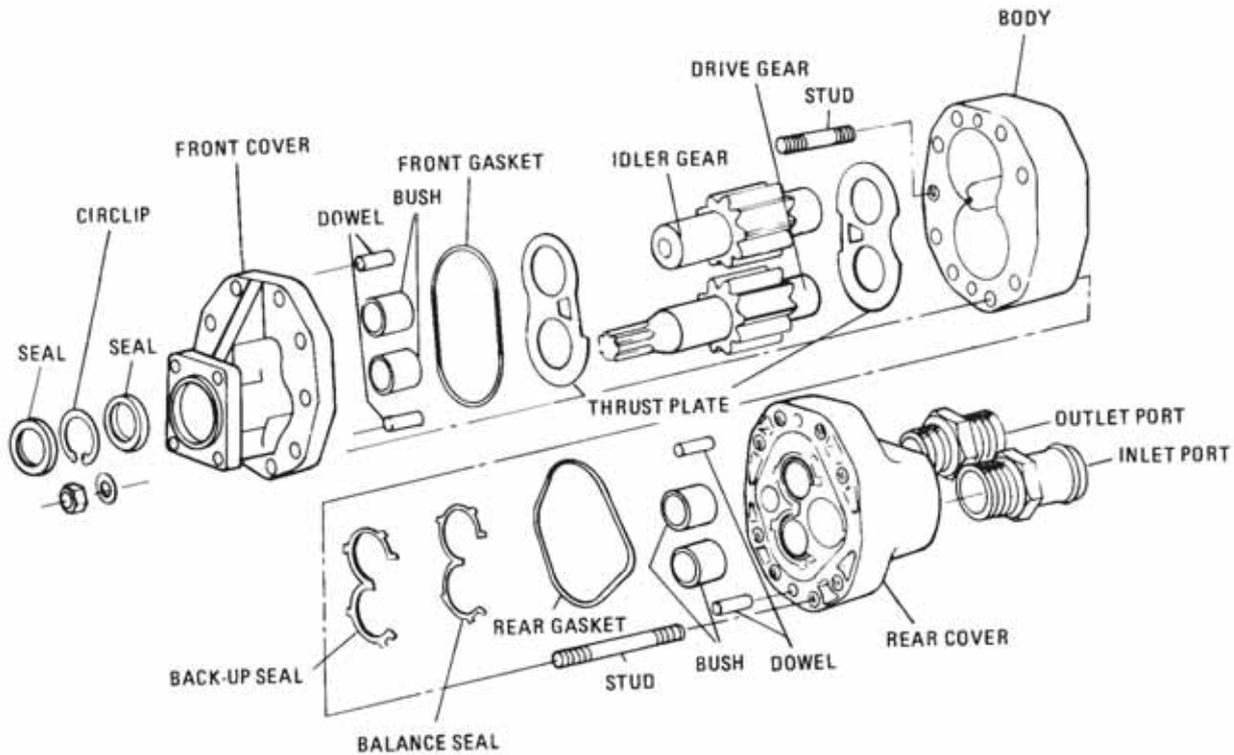

Figure 9 Hydraulic Pump
12. The hydraulic pump (Figure 9) is flange mounted directly onto the drive output end of the PTO. The pump drive gear is splined to the PTO drive shaft. The drive gear and idler gear shafts are both mounted in bushes.